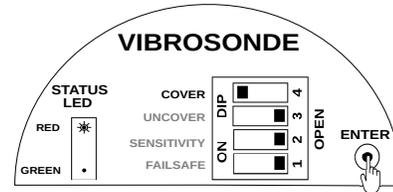

Figure 11: Setting Cover Delay
- Press ENTER. The STATUS LED starts blinking. Blink the STATUS LED according to value of cover delay as shown in Figure 11.